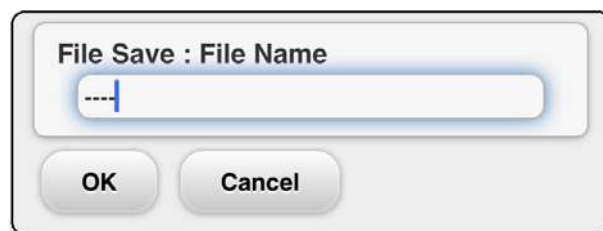

Fig. 4-79 Measurement Condition Saving Window
- (1) When saving the set conditions, press  [save button] icon shown at the header part.
- (2) The file input window (Fig. 4-79) will then be shown. After a saving file name is input, press [OK button].